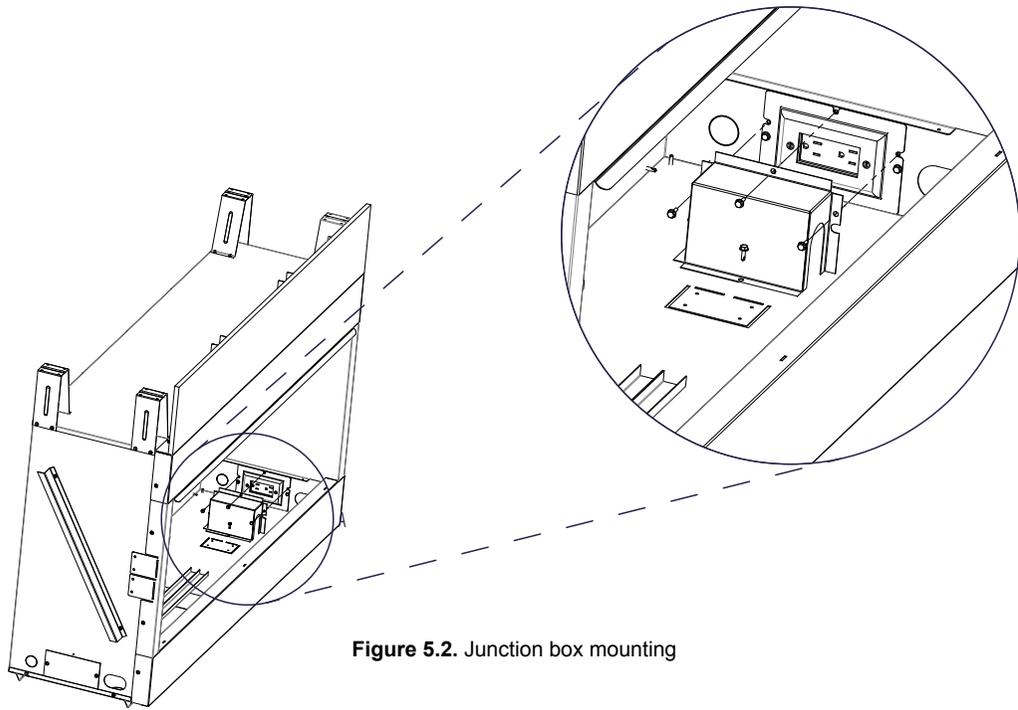

Figure 5.2. Junction box mounting
- Remove screws securing junction box and mounting bracket as shown in Figure 5.2.